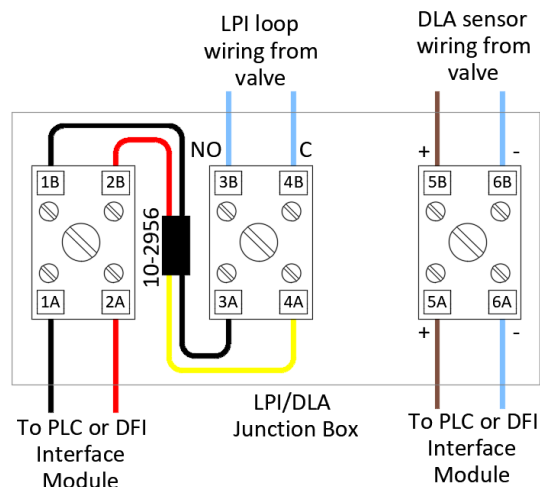

Figure 3 – LPI/DLA Field Junction Box Connections
8. Connect the DLA sensor wire leads to terminals 5B and 6B (Figure 3) within the field junction box.
12. Connect the cable leads to terminals 5A and 6A (Figure 3) within the field junction box, observing correct wire polarity.